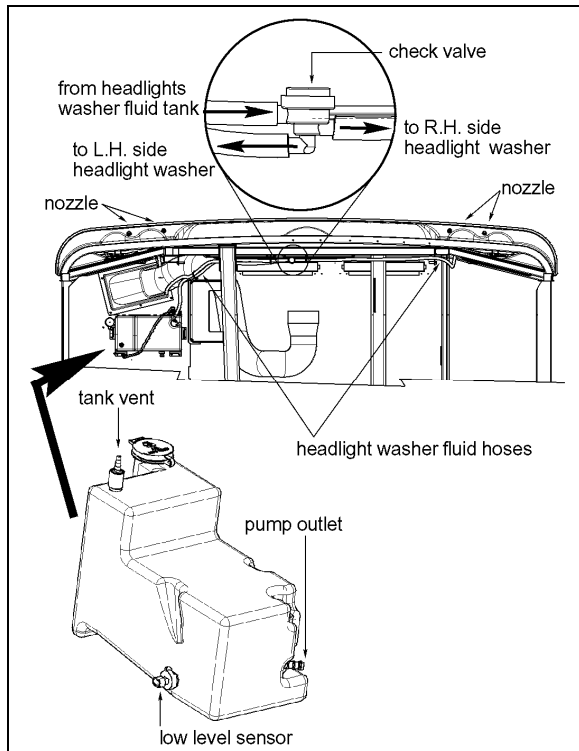

FIGURE 30: HEADLIGHTS CLEANING SYSTEM
Turn the multifunction lever forward to activate windshield wipers (item 2, fig. 30). The first position operates the wipers at low speed and the second position operates the wipers at high speed. Turning the lever backwards will operate the wipers in the intermittent mode.
The windshield washer pumps are electrically operated and are controlled by a washer control ring on the multifunction lever (item 1, fig. 30).